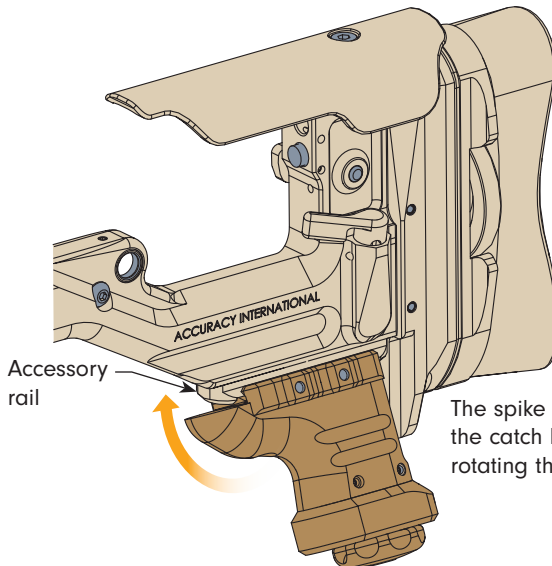

Fig 2-25
- Locate the edge of the spike clamp on one side of the rear accessory rail (see Fig 2-25).